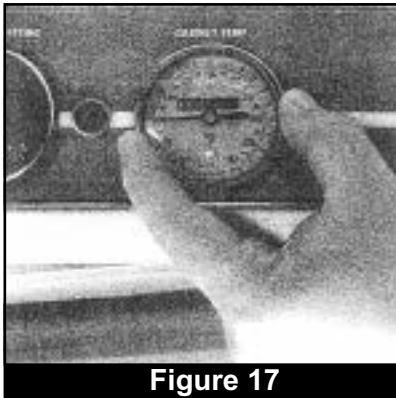

Figure 17
**\*\*NOTE:** Align thermometer so that the 150° reading will be straight up when the front panel is replaced and the heating module is flipped over. (Fig. 17)